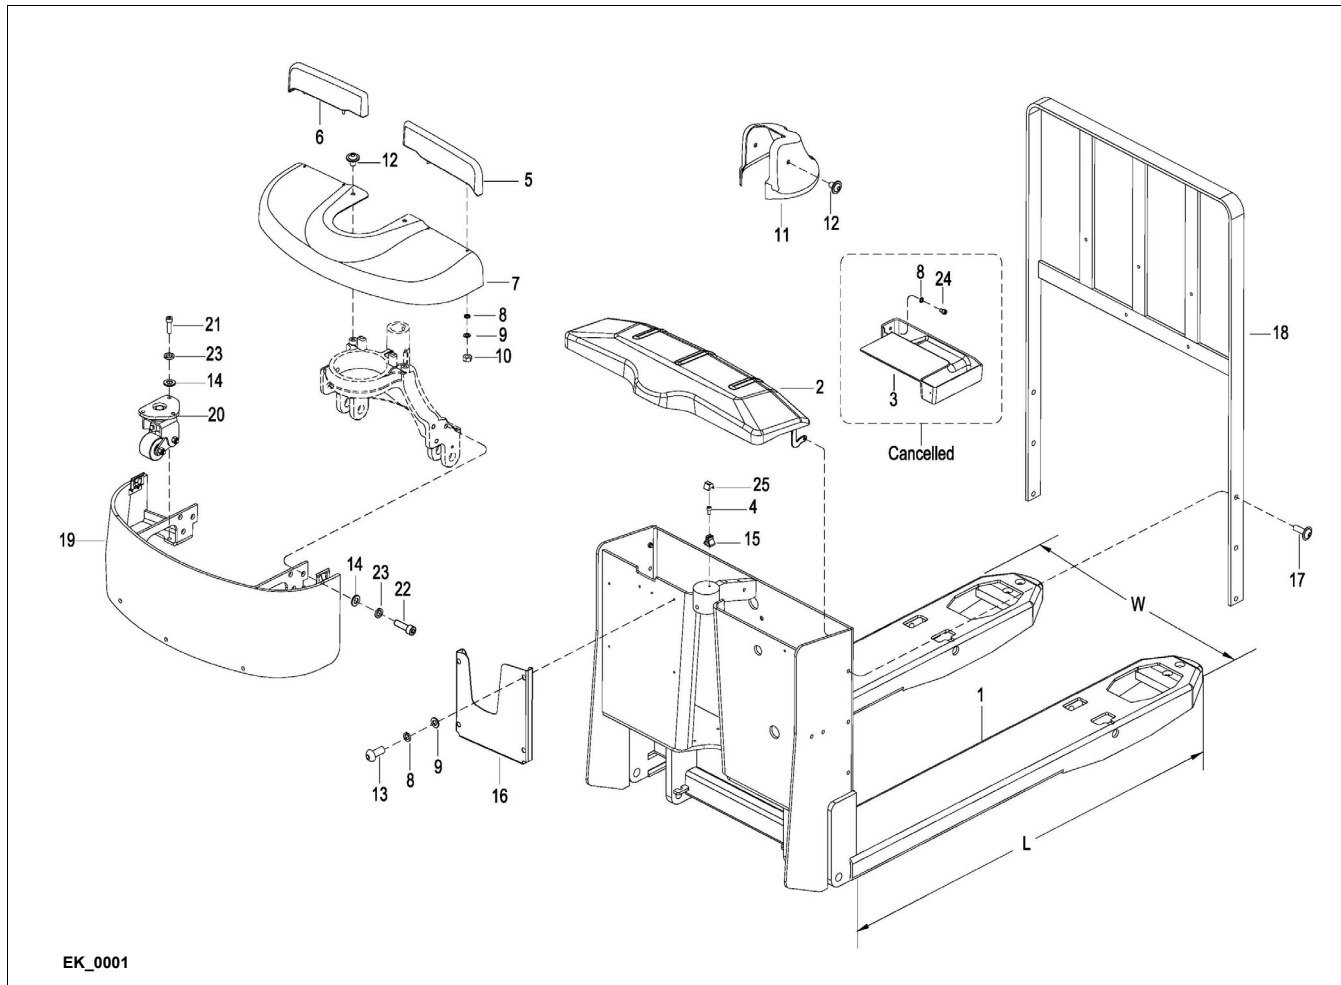

Figure 5-5 Compartment Cover
2. Lift up the top cover and gently push the top cover tabs (one on each side of cover) towards the center of compartment and remove the top cover from the compartment (Figure 5-5).
line up the tabs with the holes in the compartment and let go. (Figure 5-5).